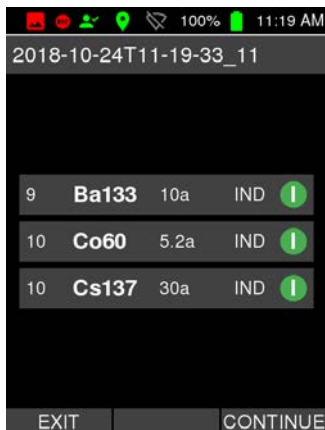

Figure 149: The Easy ID results
4. After the preset duration elapsed, the RAEAGLET-R analyzes the recorded spectrum and displays the result (Fig. 149, p. 138).
2. Look for the spectrum you saved after the identification in section 9.4.2, p. 137 above (Fig. 149, p. 138).